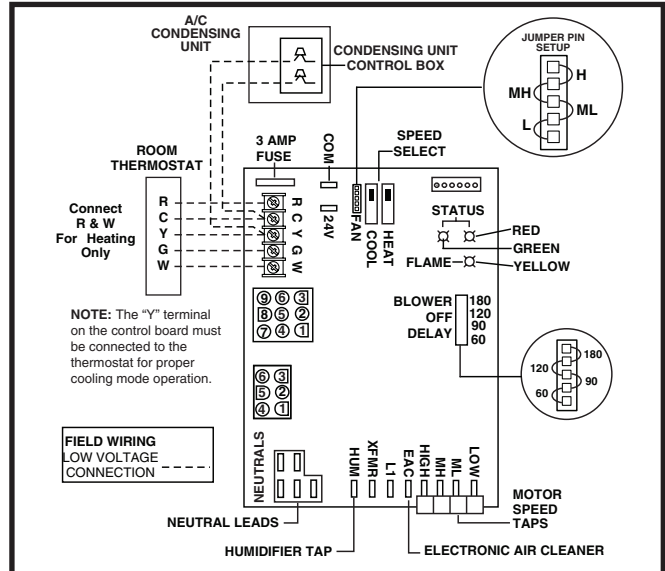
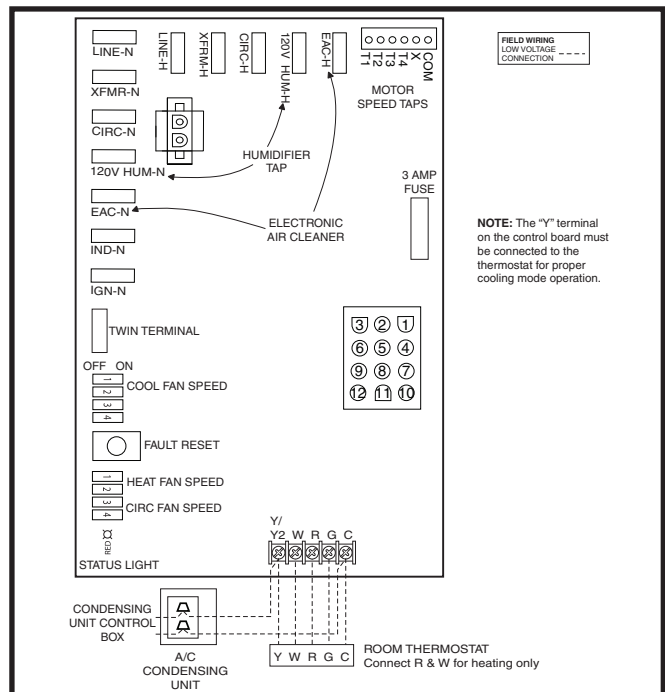

Figure 25. Nordyne/UTEC Low Voltage Field, Four-wire Heating/Cooling Applications
Figure 26. Emerson Low Voltage Field, Four-wire Heating/Cooling Applications
- The thermostat must be installed according to the instructions supplied by the thermostat manufacturer. Low voltage connections (24 VAC) from the thermostat are wired to the terminal strip on the integrated control in the furnace. Figure 25 contains the proper connections for heating only (two-wire) and heating/cooling (four-wire) applications. Recommended minimum wire gauge for thermostat wiring is shown in Table 5 (page 23).
- ✓ Verify the jumper on the Nordyne/UTEC board or dipswitch on the Emerson board (for fan speed) on the control board. See Figure 25 \(page 24\) and Figure 26 \(page 24\).